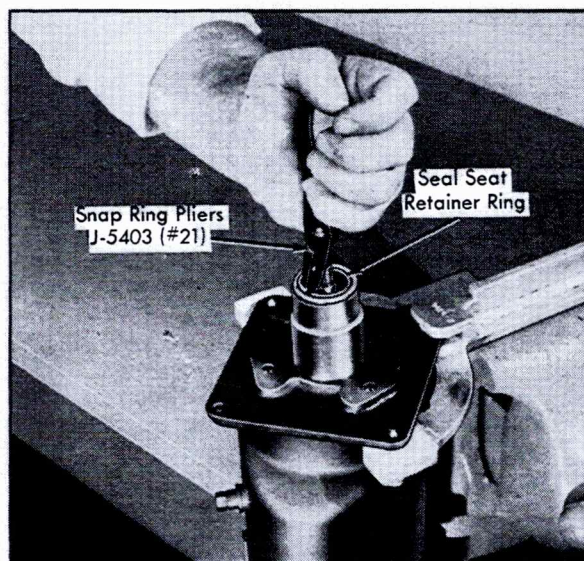

Fig. 1-49 Removing Seal Seat Retainer Ring
3. Remove seal seat retainer ring using Snap Ring Pliers, J-5403 (#21), Fig. 1-49.